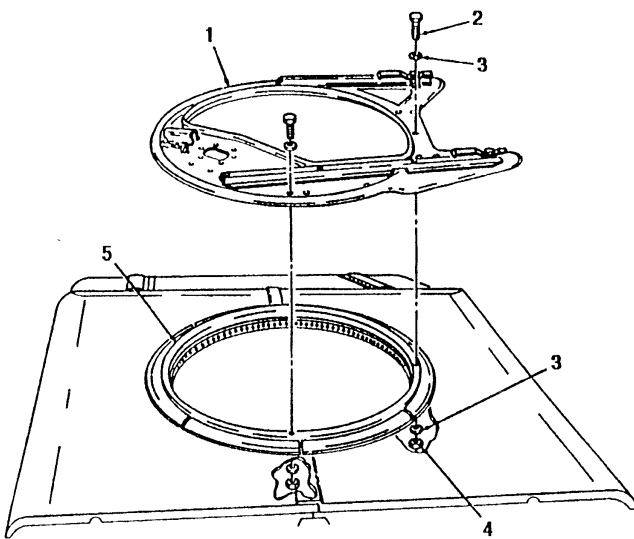
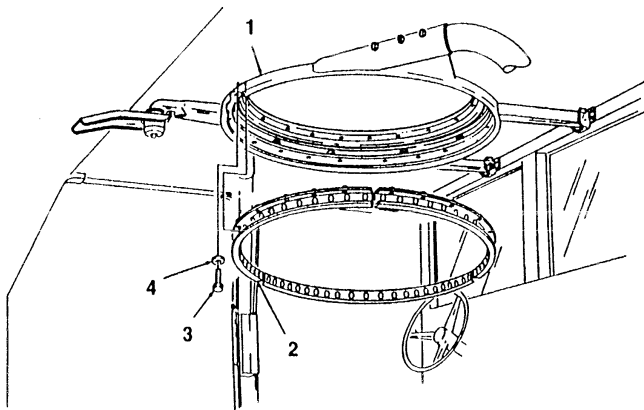

FIGURE 3-28
FIGURE 3-30
15. Remove three nuts (4), six washers (3), and three screws (2), securing weapon station tray (1) to bearing assembly (5). (see figure 3-28)
16. Remove weapon station tray (1) from bearing assembly (5).
17. Remove eighteen screws (3) and washers (4) securing three turret lockring sections (2) to support ring (1). (see figure 3-30)